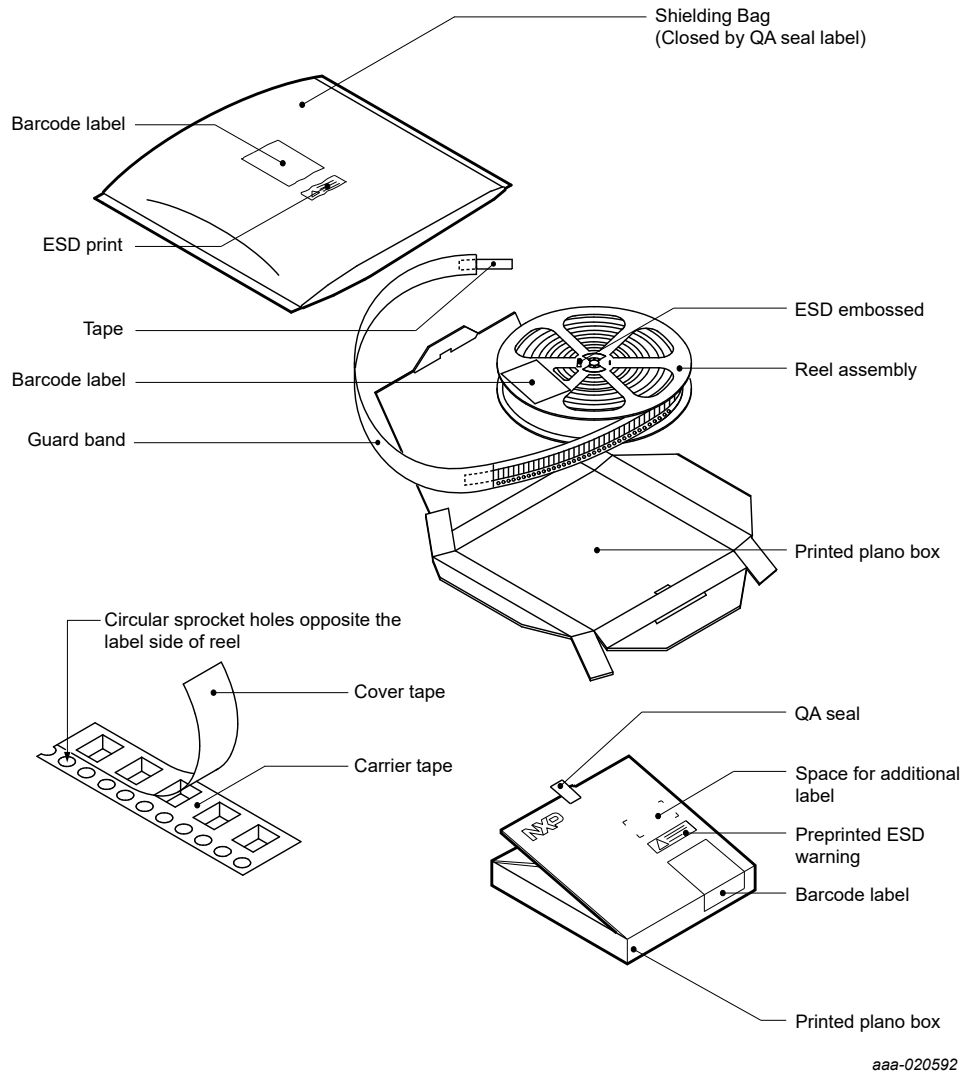

Figure 49. Typical reel pack for SMD: Guard band, ESD shielding bag
- NXP tape and reel carriers are in accordance with ANSI/EIA-481 (Figure 49).